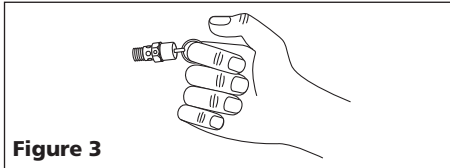

Figure 3
2. Wearing safety glasses, pull the ring on the safety valve (see Figure 3) to release pressure from compressor tank. Use your other hand to deflect fast-moving air from being directed toward your face.